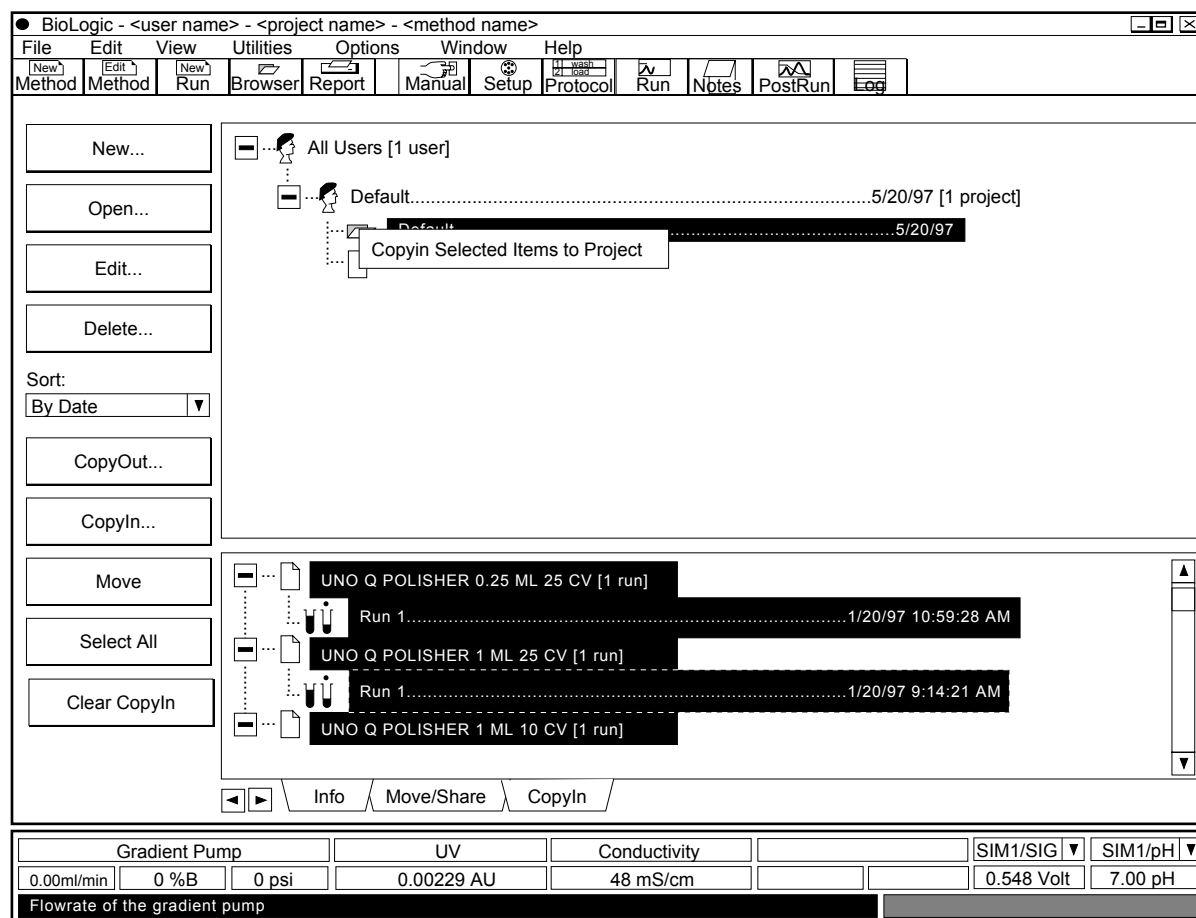

Figure 32. CopyIn with Information in Browser Tab Window
- From the COPYIN List in the Browser Tab window, select the desired methods and runs. All methods and runs in the file are displayed in the COPYIN List. (See Figure 32.) From the database tree window, click the left mouse button to select the Project to which you want the methods and runs to be copied.